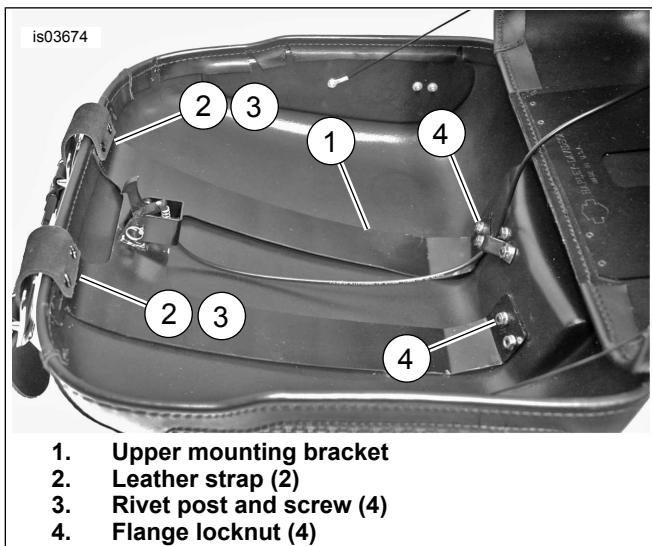

Figure 2. Install Upper Mounting Bracket
4. See Figure 2. Place upper mounting bracket (1) directly against the underside of the Tour-Pak lid.
5. Place leather straps (2) directly on upper mounting bracket.